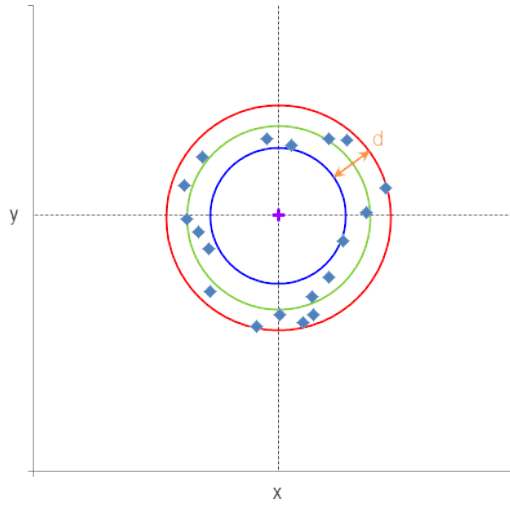

Figure 16.12: Minimum Zone Fitting of a 2D Circle. Note: the fitted circle is the green circle
The following Figure 16.12 illustrates the Minimum Zone criterion for a 2D Circle, with the same point cloud used in the *Least Square Method (LS)*:
The *Minimum Zone Inner* method is based on the *Chebyshev* algorithm. This method can be used to fit the same geometries as the *Least Square Method (LS)*. It follows the same algorithm as the *Minimum Zone Method (MZ)*. The only difference is that instead of taking the mean geometry, we take the minimum one (i.e., the blue circle in Figure 16.12).
The *Minimum Zone Outer* method is based on the *Chebyshev* algorithm. This method can be used to fit the same geometries as the *Least Square Method (LS)*. It follows the same algorithm as the *Minimum Zone Method (MZ)*. The only difference is that instead of taking the mean geometry, we take the maximum one (i.e., the red circle in Figure 16.12).
16.3.4.5 Maximum Inscribed (MI)